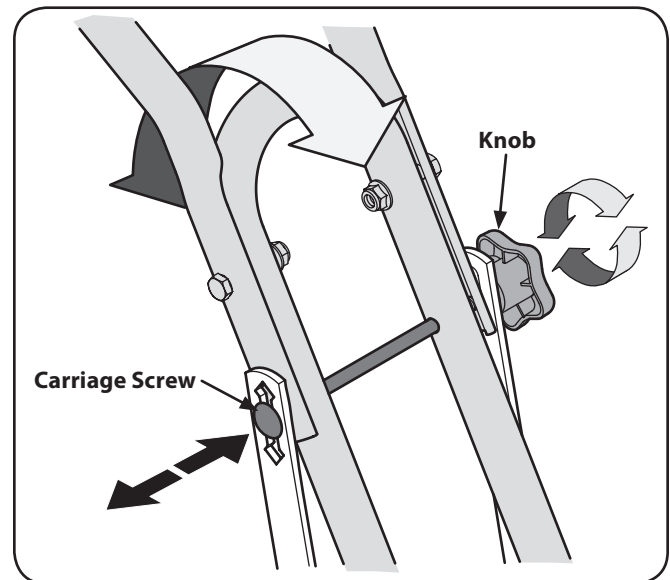

Figure 3-4
- There are three height adjustment holes in the handlebar support bracket. Use a setting that will position the handlebars at approximately waist level when the tines are 3-4" into the soil. To adjust the height of the handlebars loosen the knob on the handle, pull out on the carriage screw, adjust to the desired setting, push the carriage screw in until the square portion of the screw locks into place and re-tighten the knob. See Fig. 3-4.